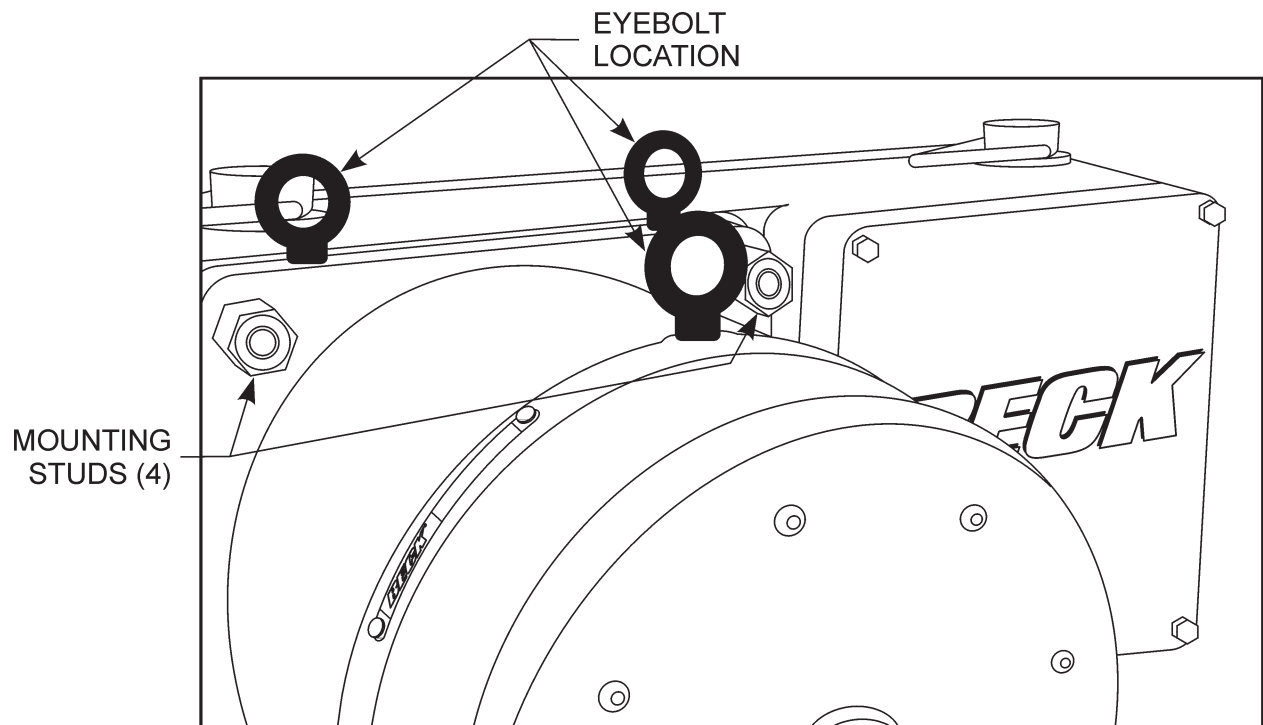

Figure 1
2. Remove and retain the cap plugs from the holes (3) located in the top of the motor. Install the eyebolts (provided) in the holes (see Figure 1).
3. Support the motor's weight by suspending it from a suitable hoist using all (3) eyebolts. **Motor weight: 108 lbs.**
4. Remove the 1/2-13 hex nuts from the mounting studs (see Figure 1) and pull the motor straight out from the drive body.